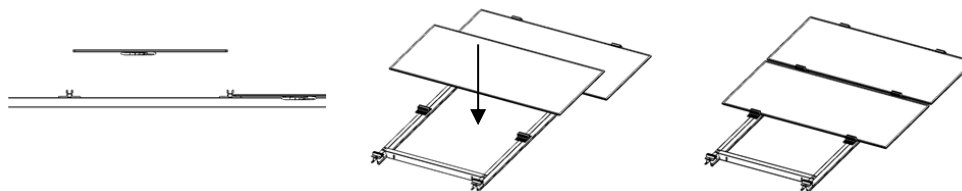

Figure 3 Install Second module onto Sub-Frame.
- 1.4. Install the second module. Place the solar module flat onto the 4 insulators. Be sure to center the module on the Sub-Frame. Figure 3